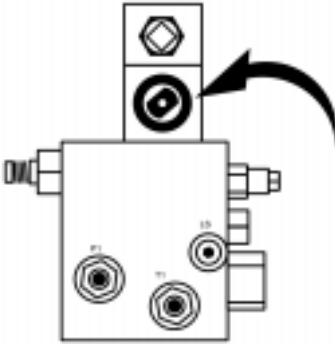

Figure 3.9
- Determine the direction you would like the GRADEMASTER to move. “Up” is left. “Down” is right. See Figure 3.9.